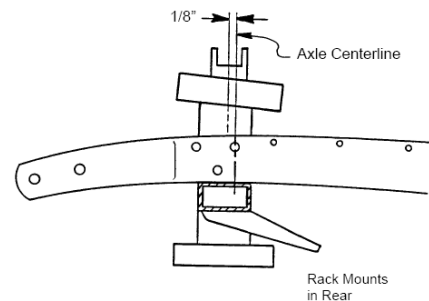

Figure 2- Crossmember Fitment
5. Trial fit the new crossmember onto the rails. It should be located with its centerline 118" forward of the marked axle centerline. See **Figure 2**. The caster setting will bring the spindle pin back in line. The frame is 27-3/8 wide at the axle centerline. During boxing, the rails may have a tendency to bow outward slightly if they were clamped ahead of the axle centerline. Pull the rails in to fit the crossmember up onto the rails. It should be seated flat against the bottom of the frame rails. Clamp in place, double check your measurements, making sure crossmember is squared on the frame, then weld in place. Weld all around, top, sides and bottom. This crossmember keeps the front frame rails from twisting and flexing, so good strong welds are required.